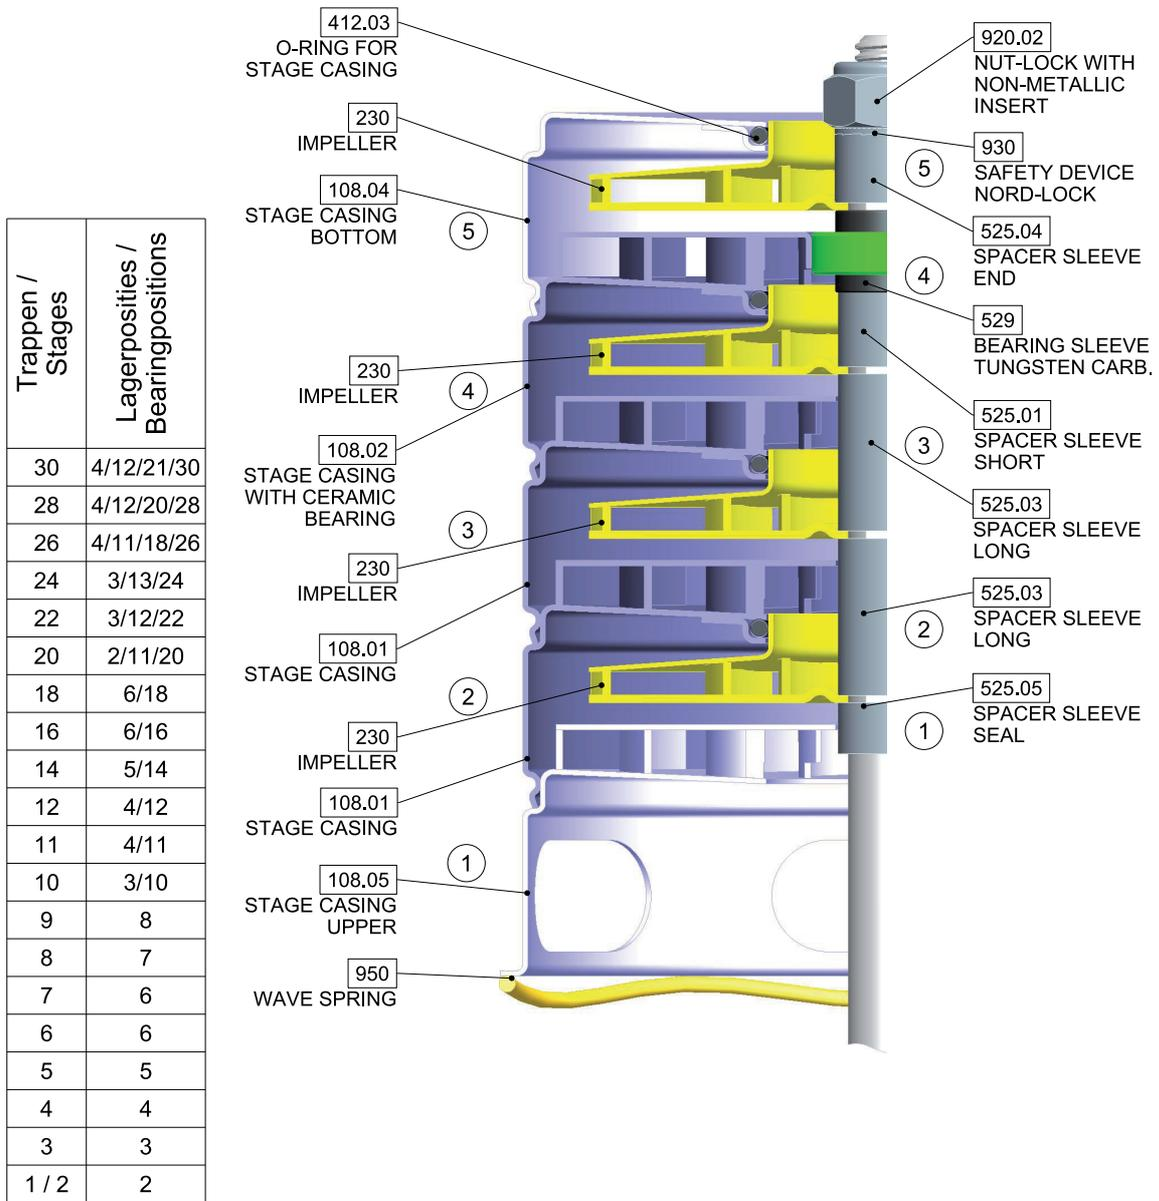

Figure 6: Bearing position V(C/S) 2, 4, and 6
3. First slide the seal bush (525.05) on the shaft (210). Next slide an impeller (230.01/ 230.02) on the shaft (210). The inlet of the impeller (230) should be facing upwards.
4. Depending on the number of stages, the positions of the bearing(s) are specified. See figure 6 up to 10 to specify the positions.